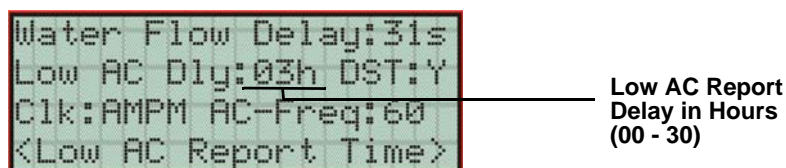

Figure 7-17 Low AC Report Delay Programming Screen
- Enter the number of hours before a low AC report will be sent to the central station, then press . Refer to Figure 7-17.